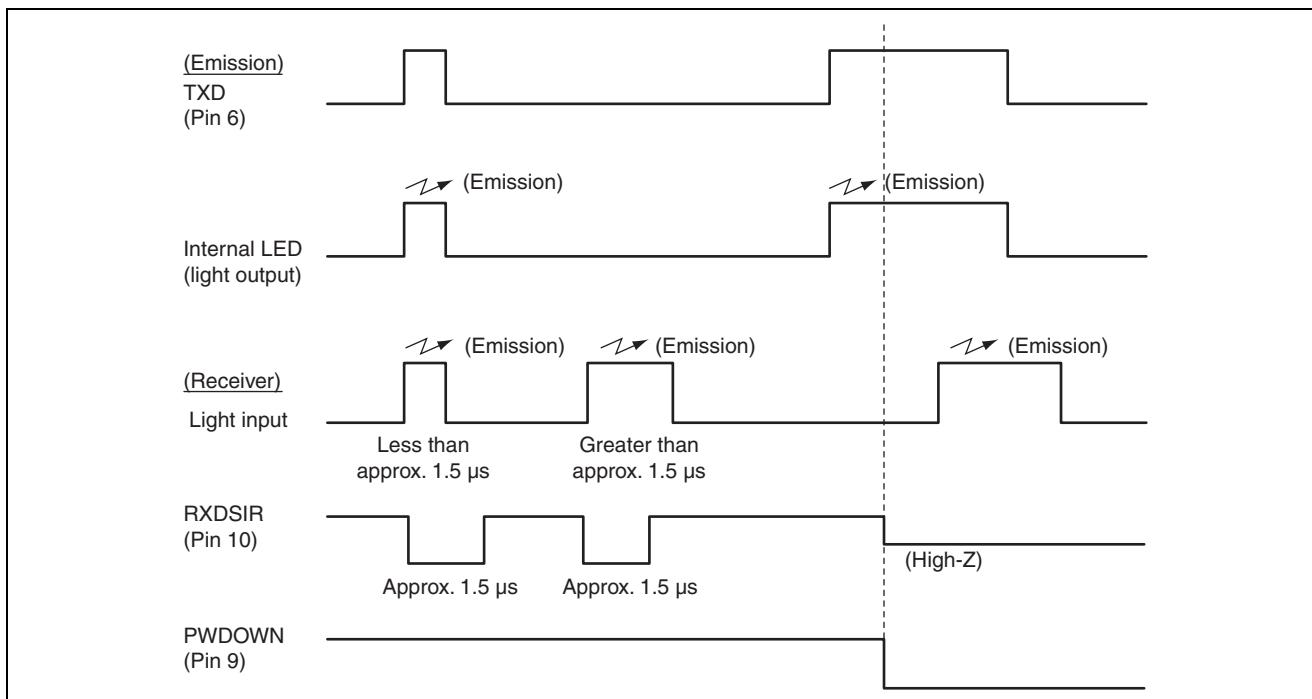

Figure 1.2 Example of Infrared Light Transceiver Operation Timing Chart
- B. Figure 1.2 shows an example of infrared light transceiver operation timing chart.